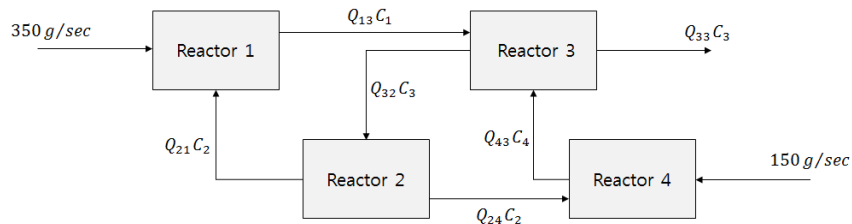

FIGURE P2.2
2.2 Four reactors are connected by pipes where directions of flow are depicted by means of arrows as shown in Figure P2.2¹⁸. The flow rate of the key component is given by the volumetric flow rate Q (liter/sec) multiplied by the concentration C (g/liter) of the component. The incoming flow rate is assumed to be equal to the outgoing rate. Using the flow rates given below, calculate the concentration at each reactor: